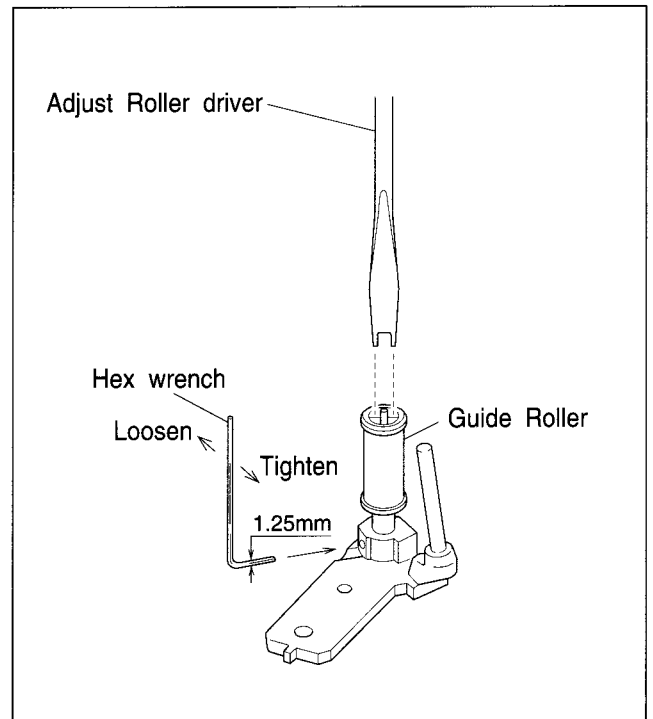
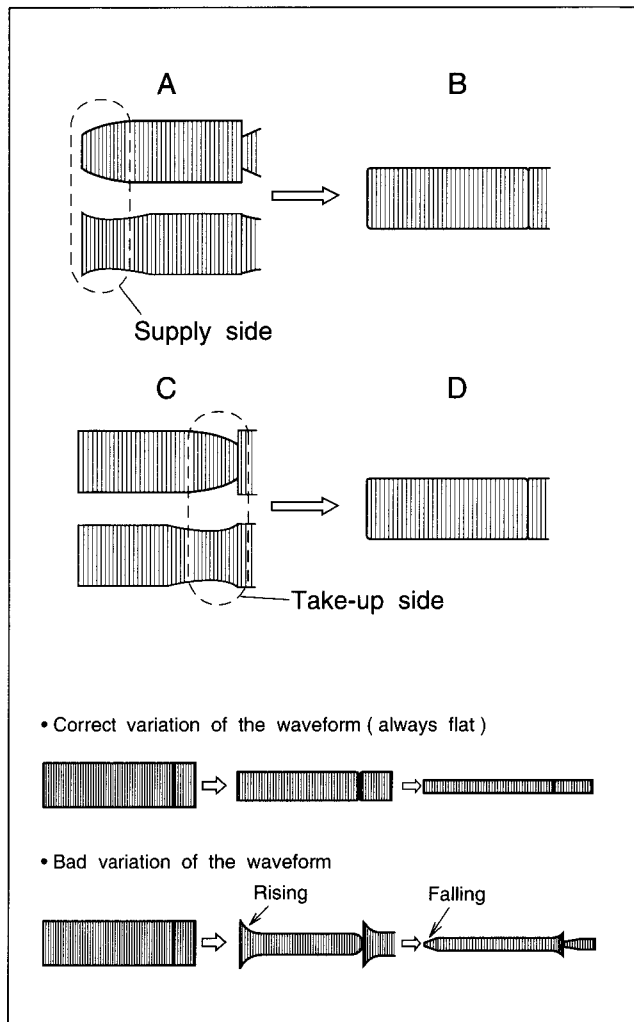
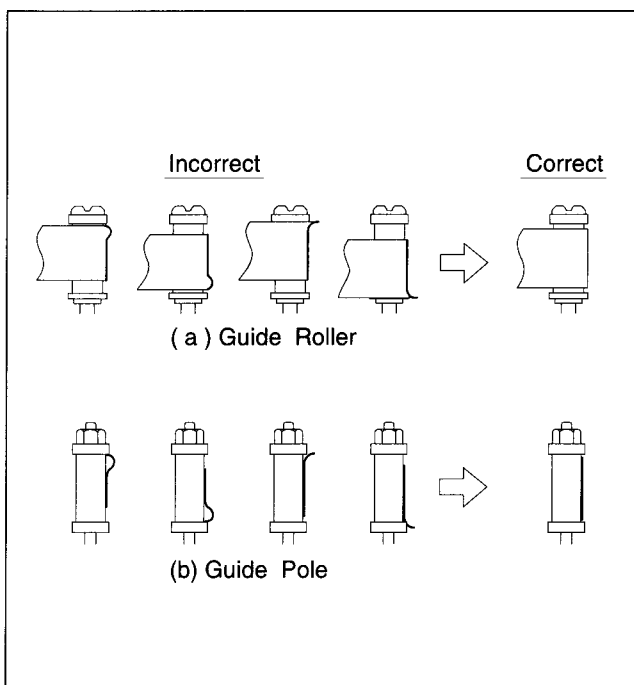

Fig. 1-7-2
Fig. 1-7-3
Fig. 1-7-4
- (6) When the FM waveform does not remain flat during this process,first slightly loosen the set screw located at the bottom of the guide rollers.Using the guide roller adjustment tool (Roller driver),adjust the supply and take-up guide rollers (refer to Fig.1-7-2) to obtain the correct waveform as indicated in Fig.1-7-3.
- (7) By pressing the TV PROG buttons several times, vary the FM waveform output from maximum to minimum (and vice versa) gradually,and confirm that the variation proceeds in flat shape, as shown in Fig.1-7-3.
- (8) Next playback the EP or LP stairstep portion of the alignment tape [MHP-L, MHPE-L] and adjust the tracking control from maximum to minimum the FM waveform,confirm that FM waveform variation is always flat.
- (9) Record the signal and play it back in both of the SP and EP, LP mode,confirm that the FM waveform is flat in both mode.
- (10) After adjustments,tighten the set screw of the guide rollers.
- (11) Confirm that the tape wrinkling does not occur at the roller upper or lower limits as indicated in Fig.1-7-4.